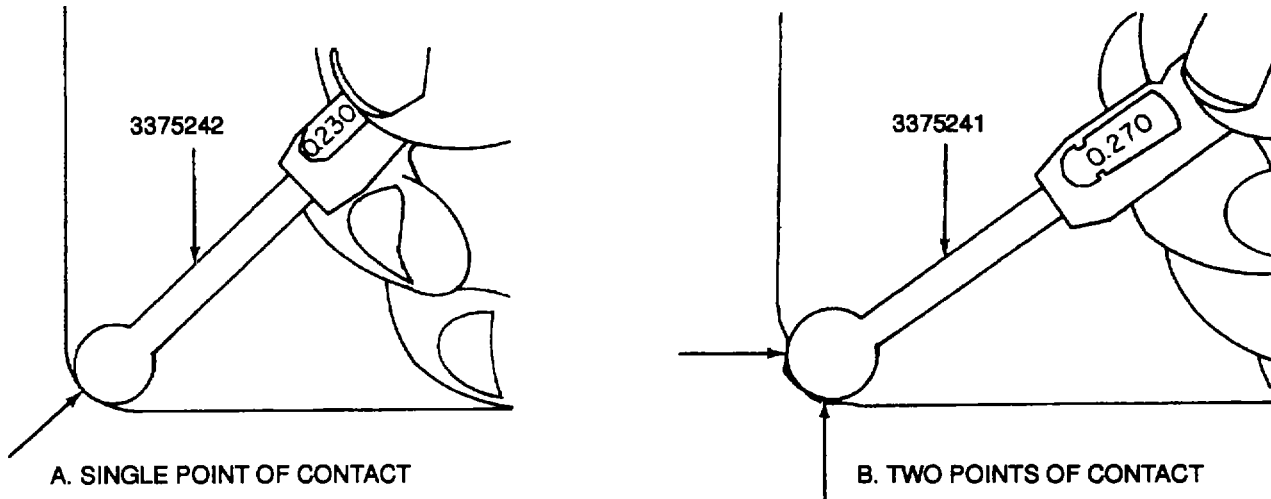

Figure 9-52. Checking Fillet Radius
- (21) Check the fillet radii using fillet ball gages 3375241 and 3375242 as follows (see Figure 9-52):
- (b) Move the ball gage toward the fillet. If the fillet is properly blended, and at or above the minimum radius, only one point of contact should show as the ball contacts the fillet area and moves up to the bossing wall (A, Figure 9-52). If two points of contact show at any part of the radius, the radius is undersize.
- (c) Check the fillet with the 0.270 inch (6.86 mm) ball gage to ensure that it is not oversize. On this check two points of contact should show: one at the bottom and the other up on the side (B, Figure 9-52). If only one point of contact shows at any part of the radius, the radius is oversize.
- (d) If fillet radius is incorrect, the grinding wheel was improperly dressed. Refer to step (2), above, for proper grinding wheel dressing.